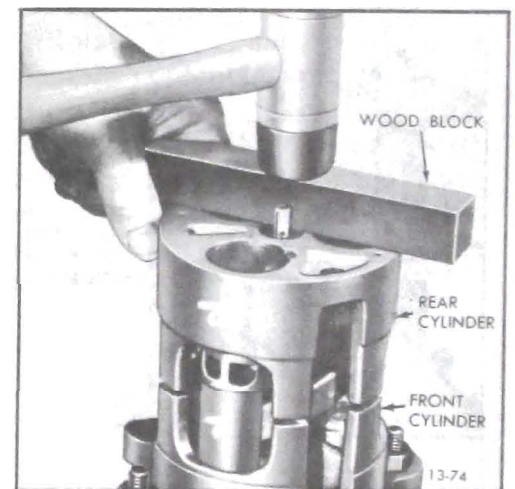

Figure 13-98 Assembling Rear Cylinder Half
9. reassemble rear cylinder onto front cylinder using wood block and mallet (see Figure 13-98).